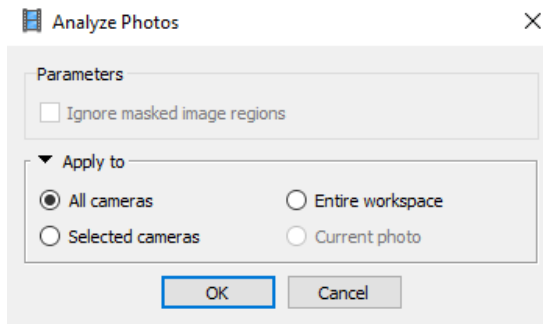

Figure 15. Example of Estimate Image Quality window with desired settings.
6. Right click and choose Estimate Image Quality (Figure 15).